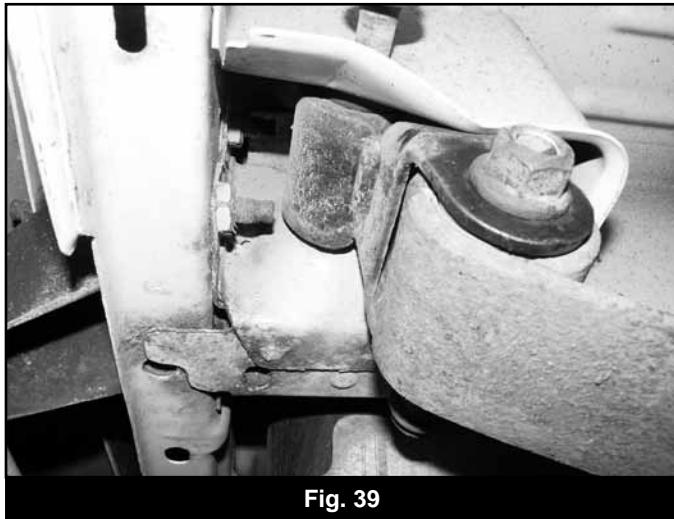

Fig. 39
- Locate the bumper bolt that is protruding into the shackle pocket (Fig 39). This bolt will contact the new larger shackle through suspension travel. The bolt can either be cut off flush with the welded nut on the body or removed.